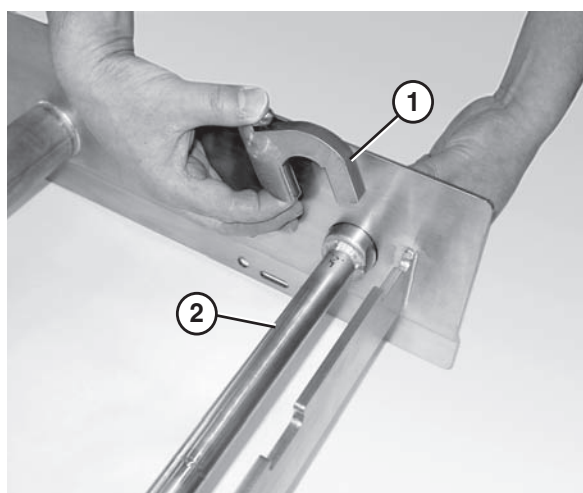

Figure 21
2. Attach the key stops (**Figure 21, item 1**) to the tip up shaft (**Figure 21, item 2**). The rounded end of the key stop should face the tail.